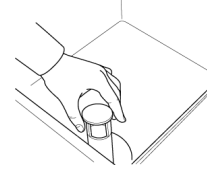

Fig.14
- 1- Open the door and verify all internal components including the water flow device are in the correct position (Fig.14)